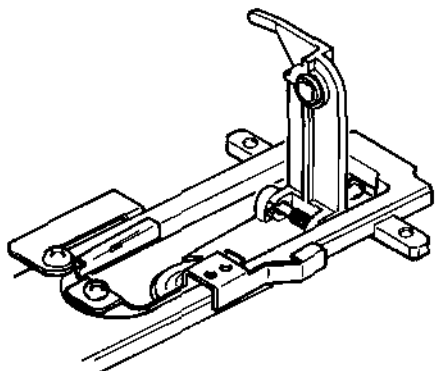

Fig. 4-1. Accessing the read/write head.
3. To access the read/write head, gently lift up the pressure pad mount as illustrated in Fig. 4-1.